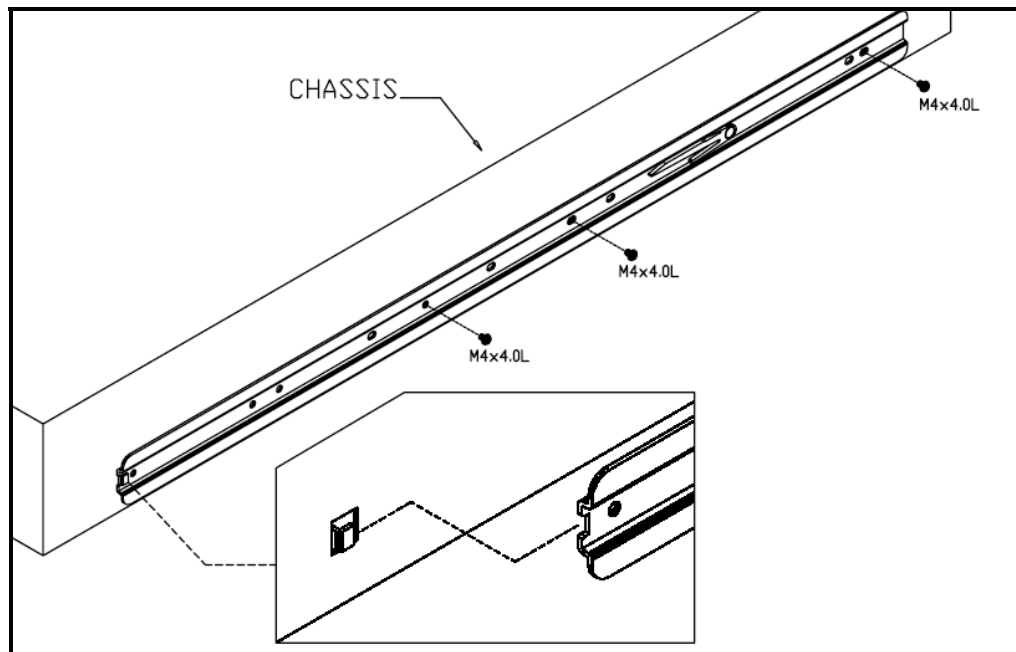
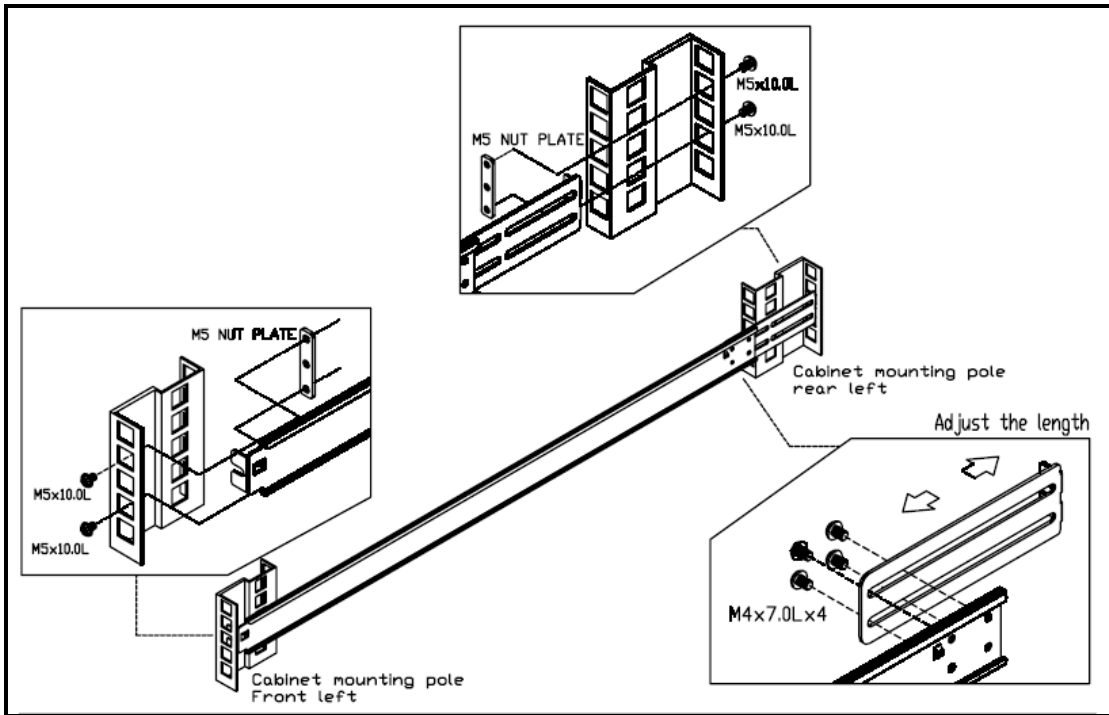

Figure B-2. Attaching the Side Rails to the Chassis
Figure B-3. Attaching the Mounting Rails to the Rack (square holes)
- Secure with the mounting hardware to the rack. Refer to Figure B-2 for rack rails with square holes, or Figure B-3 for rack rails with round holes.